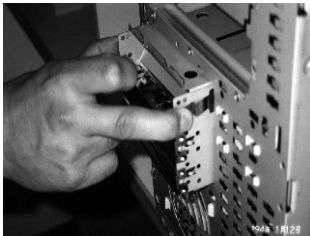

Fig:5
A. Squeeze tabs on side and remove 3.5" drive cassette (Fig. 5). Slide HDD into cassette and fasten with coarse thread flat head screws. Make sure EMI clip is In place.